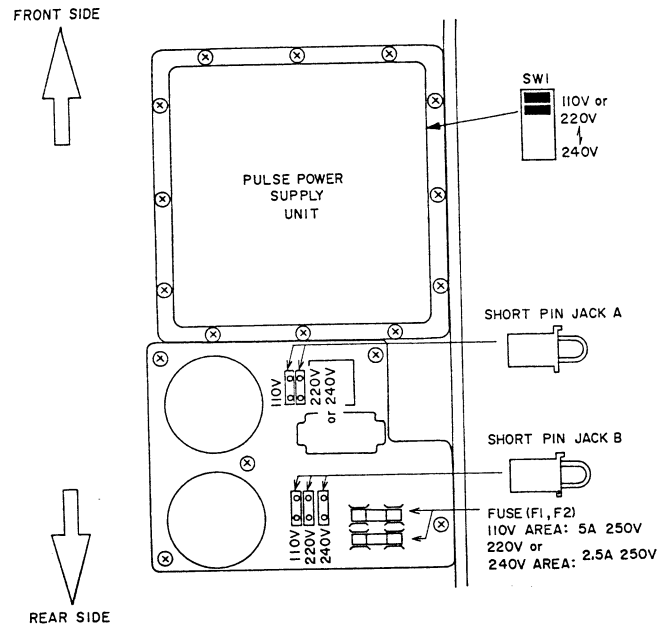

Fig. 4 Voltage Conversion (U/T model)
- 3) Align the short pin jacks A and B with the position for each voltage area as shown in Fig. 4.
- 4) Set the slide switch located at the right hand side of the pulse power supply unit in Fig. 4.